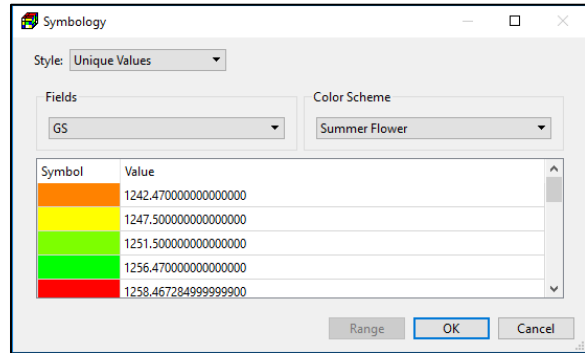

Figure 11. The Symbology dialog box - Unique Values
2. **Unique Values (Figure 11):** PM can assign a color to each unique value within a selected value field. For example, if a shapefile were to have a value field for land use, a different color could be selected to represent each type of land use (i.e. residential, commercial, agricultural, etc.).